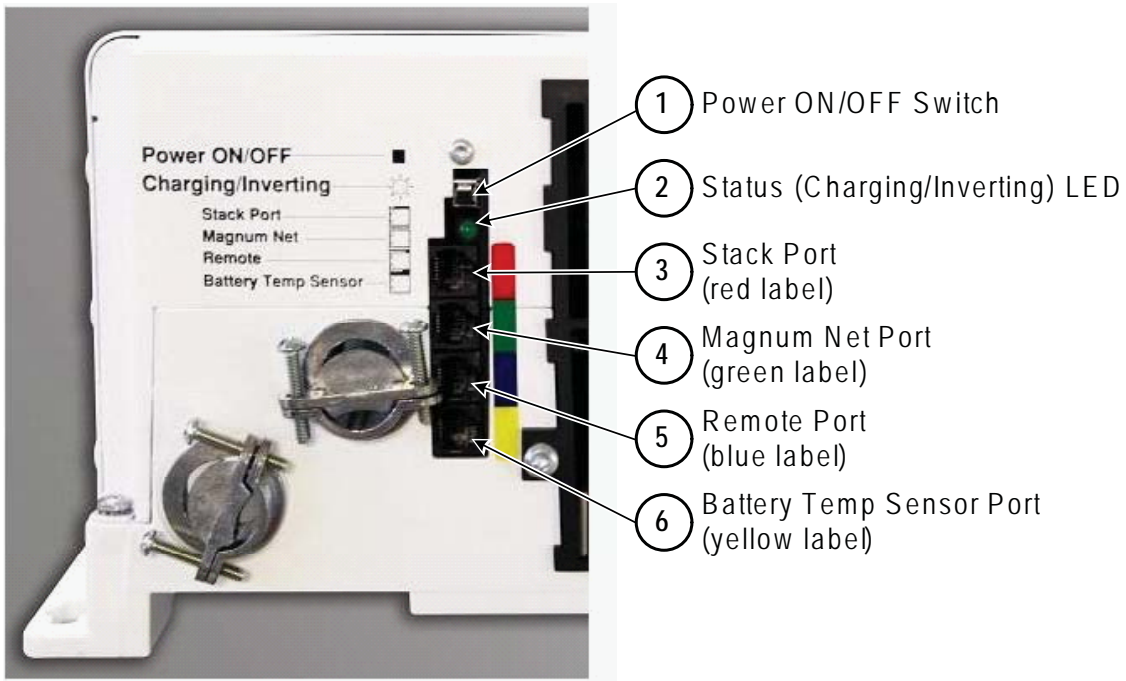

Figure 1-1, Power Switch, Status LED and Accessory Connection Ports
The front of the MS-AE Series is equipped with the following features (refer to figures 1-1 and 1-2):
Info: If the inverter is installed in an area where moisture may occur, we recommend putting silicone dielectric grease compound into the electrical ports (items 3 - 6 as shown in figure 1-1). Before installing the accessory cables or if leaving any ports open, squirt a liberal amount into each port. Silicone dielectric compound makes an effective moisture and corrosive barrier to help protect and prevent corrosion to the RJ11 connections.